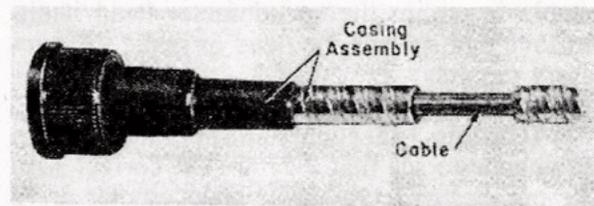

Fig. 19. Speedometer Drive Cable and Casing
a. Fails to Show both Speed and Mileage, or Pointer Fluctuates. Fluctuation of the speedometer pointer, or failure to indicate speed and mileage, is usually caused by a kinked or broken drive cable or casing. Remove and inspect the speedometer cable; if broken or kinked, install a new assembly. When the speedometer cable is installed, it should be positioned so that there are no sharp kinks or bends in the cable housing. A typical speedometer drive cable and casing is shown in Fig. 19.